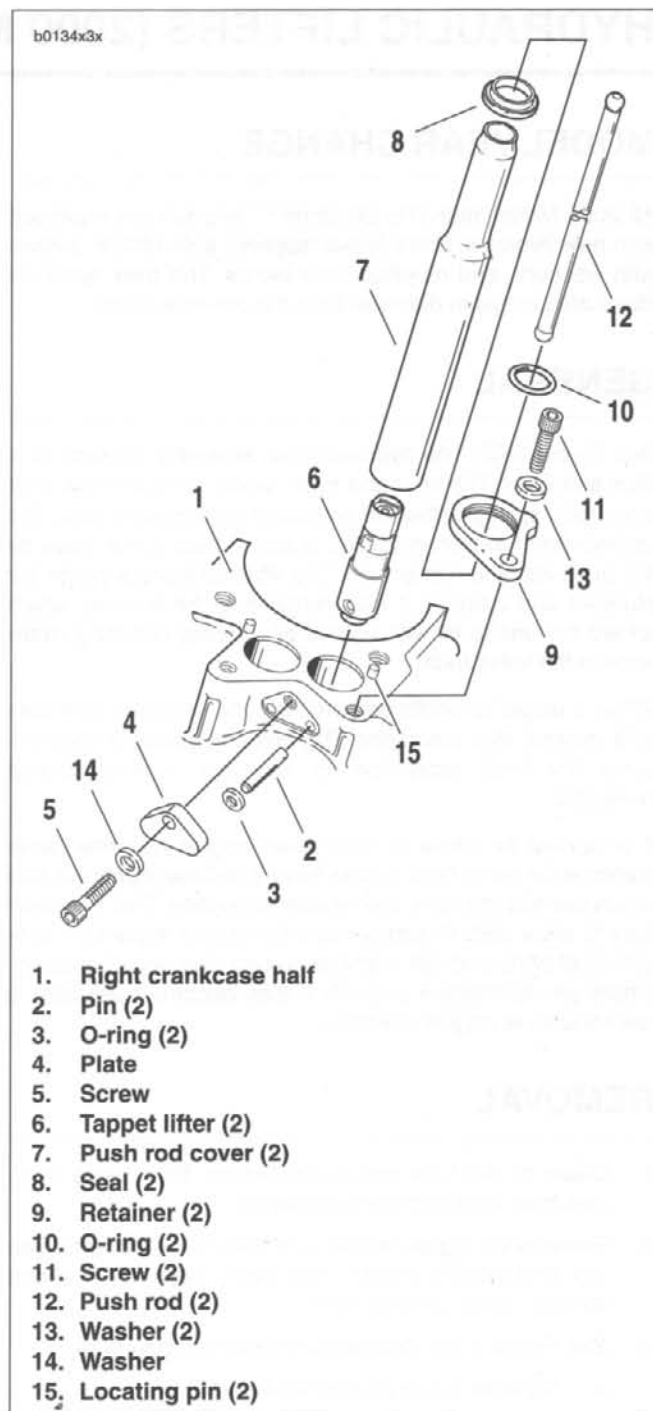

Figure 3-61. Valve Tappet Service
3. See Figure 3-61. Remove both push rod covers (7).
- a. Remove screw (11) and washer (13).
- b. Lift retainer (9) and seal (8) upward a few inches on push rod cover (7).
4. Remove both valve tappets (6).
- a. Remove screw (5), washer (14) and plate (4).
- b. Pull and discard O-rings (3) from ends of pins (2). Grasp pins (2) and pull from crankcase. Use a pliers if necessary.
3. See Figure 3-61. Insert tappet (6) into bore in crankcase (1). Rotate tappet so that flats at upper end of tappet face the front and rear of the engine. If the tappet is installed incorrectly, pins (2) cannot be inserted.
- a. Insert pins (2) in the holes in crankcase.
- b. Place **new** O-rings (3) over ends of pins.
- c. Install plate (4) using screw (5) with washer (14). Tighten to 80-110 in-lbs (9.0-12.4 Nm).
- a. Slide **new** seal (8) and retainer (9) over top of push rod cover (7).
- b. Position **new** O-ring (10) at top of push rod cover.
- d. Lower retainer (9) with seal (8) onto crankcase, aligning locating pin (15) with hole in retainer.
- e. Insert screw (11) with washer (13) through hole in retainer (9). Thread screw (11) into tapped hole in crankcase. Tighten to 15-18 ft-lbs (20.3-24.4 Nm).